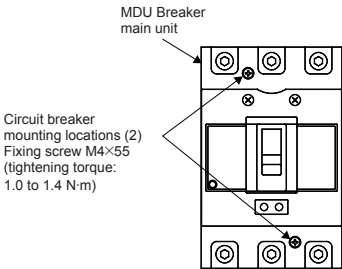

Figure 1. 250 A frame circuit breaker (3P)
(1) Use the included "circuit breaker fixing screws" to install the MDU Breaker main unit. (Figure 1 to 4)